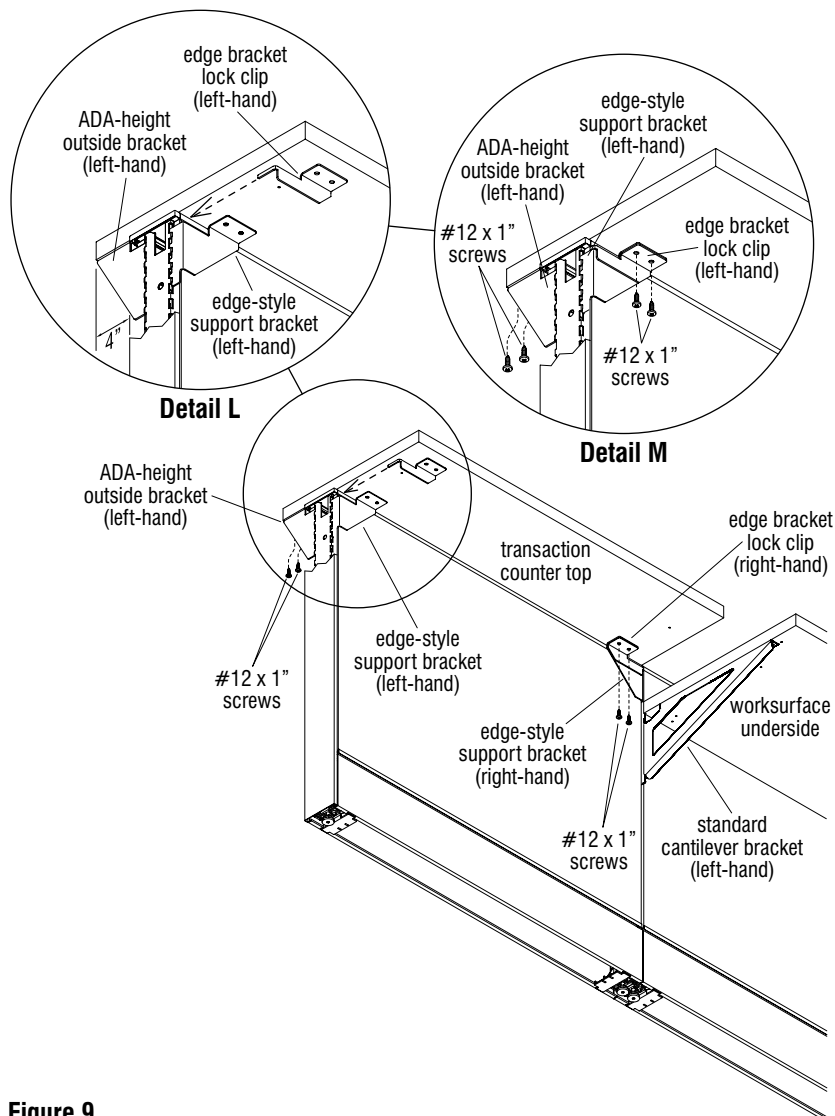

Figure 9
4. Position a left-hand lock clip as illustrated (Detail L) and insert the thin prong end of the clip into the top panel notch, just above the top tooth of the left-hand edge-style support bracket. Fully inserted properly, the two mounting holes of the lock clip will align over the two mounting holes in the edge-style bracket. Insert and tighten two #12 x 1" screws to secure the clip over the edge-style support bracket, and into the transaction countertop (Figure 9, Details L & M).
5. Repeat step 4 above for the right-hand lock clip to the right-hand edge-style support bracket. Check and assure that all four mounting screws are tight. The transaction countertop should be snug and no movement should be felt (Figure 9, Details L & M).
- Position a left-hand lock clip as illustrated (Detail P) and insert the thin prong end of the clip into the top panel notch, just above the top tooth of the left-hand edge-style support bracket. Fully inserted properly, the two mounting holes of the lock clip will align over the two mounting holes in the edge-style support bracket. Insert and tighten two #12 x 1" screws to secure the clip over the edge-style support bracket, and into the corner transaction countertop (Figure 9, Details L & M).